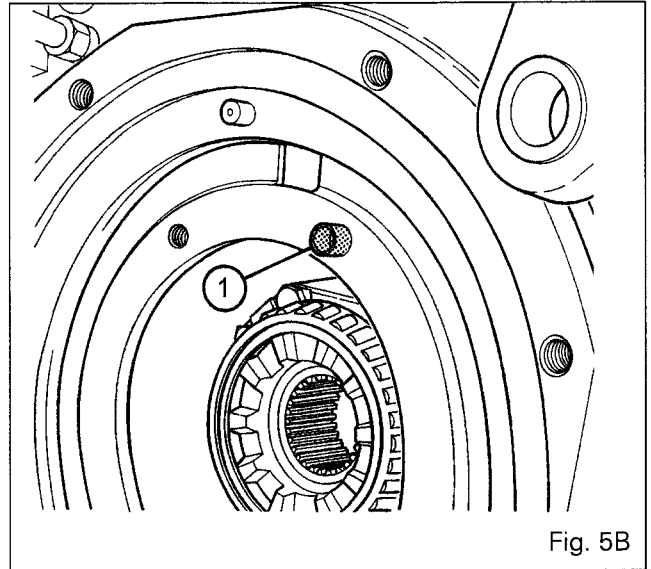

Fig. 5B
Note: As from serial number E3216019, each bearing face on the differential carriers is fitted with a centring bush (1) (Fig. 5B) so the centring device "C" need not be used.